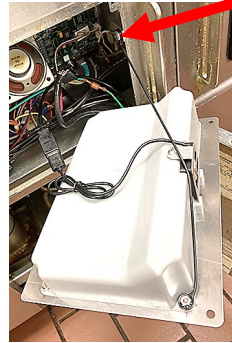

Figure 27
20. With the replacement controller face down resting in the control box, **reattach the lanyard tether FIRST**. Failure to reinstall the lanyard may result in damage to the SIB board connectors when connecting or disconnecting cables (see Figure 27).